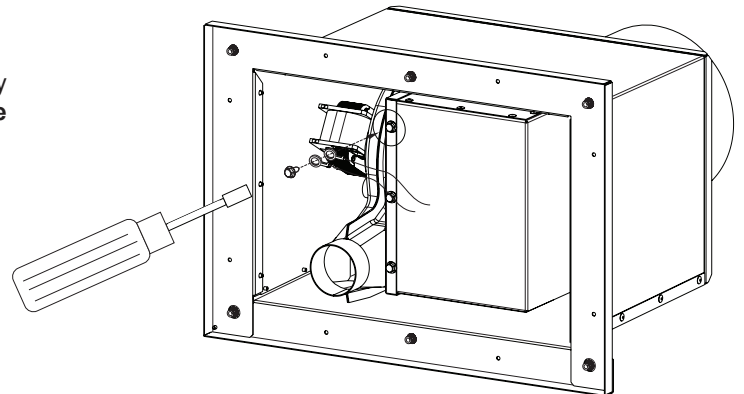

Figure 41
3. Attach #10 ring terminal to the ground wire. Remove the top #10 X 1/2 inch screw on the front of the flue box and attach the green/yellow wire from the inducer motor and the ground wire from the power supply with the screw as shown in **Figure 41** below.